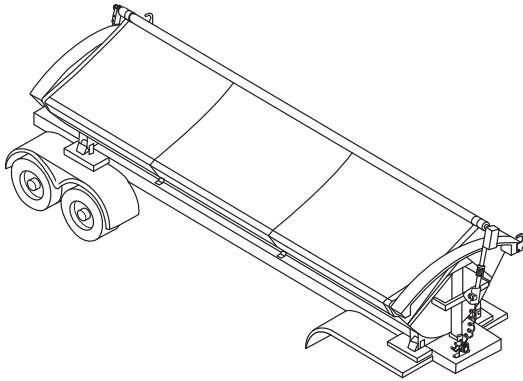

Figure 15
3) See Figure 15. Center the mesh tarp between the bulkheads.